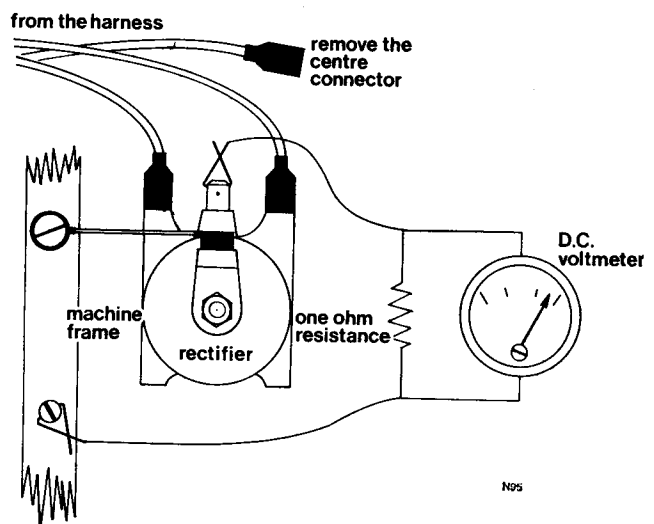

Fig. J2 Rectifier test connections
- Connect D.C. voltmeter (with 1 ohm resistor in parallel). Red lead to earth (frame), black lead to rectifier centre terminal (see Fig. J2).